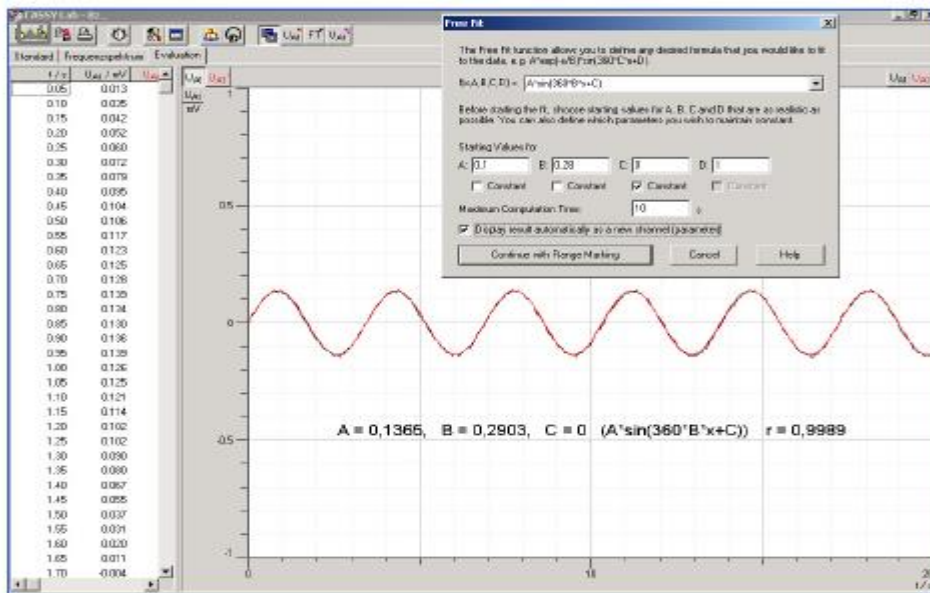

Figure 4: Induced voltage U_z
- Enter appropriate estimate values (Starting values) for the fit parameter (Fig. 4)